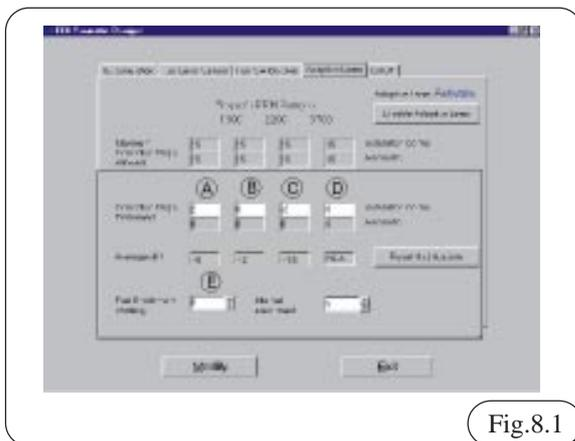

Fig.8.1
- Insert this value in cell E (see Fig.8.1) FUEL ENRICHMENT STRATEGY.
- Enter into ADAPTIVE LEARN (Fig.8.1).
- Algebraically sum the corrective steps of cell (A) and the value AVERAGE DRIFT, and enter the
- Enter into ADAPTIVE LEARN (Fig. 8.1).
- In this case, only the 6,200 - 8,700 range is to be corrected. Enter in cell (C): $-15 - 2 = -17$.